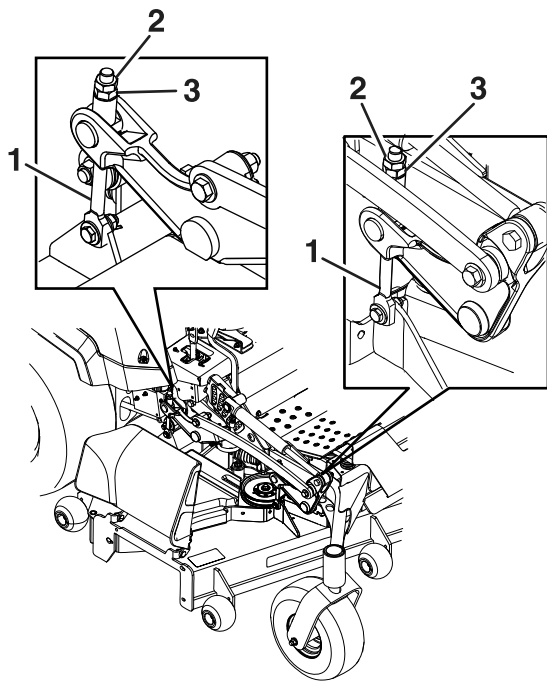

Figure 84
9. Fine-tune the adjustment nut on the front deck lift assembly by turning it (Figure 84).